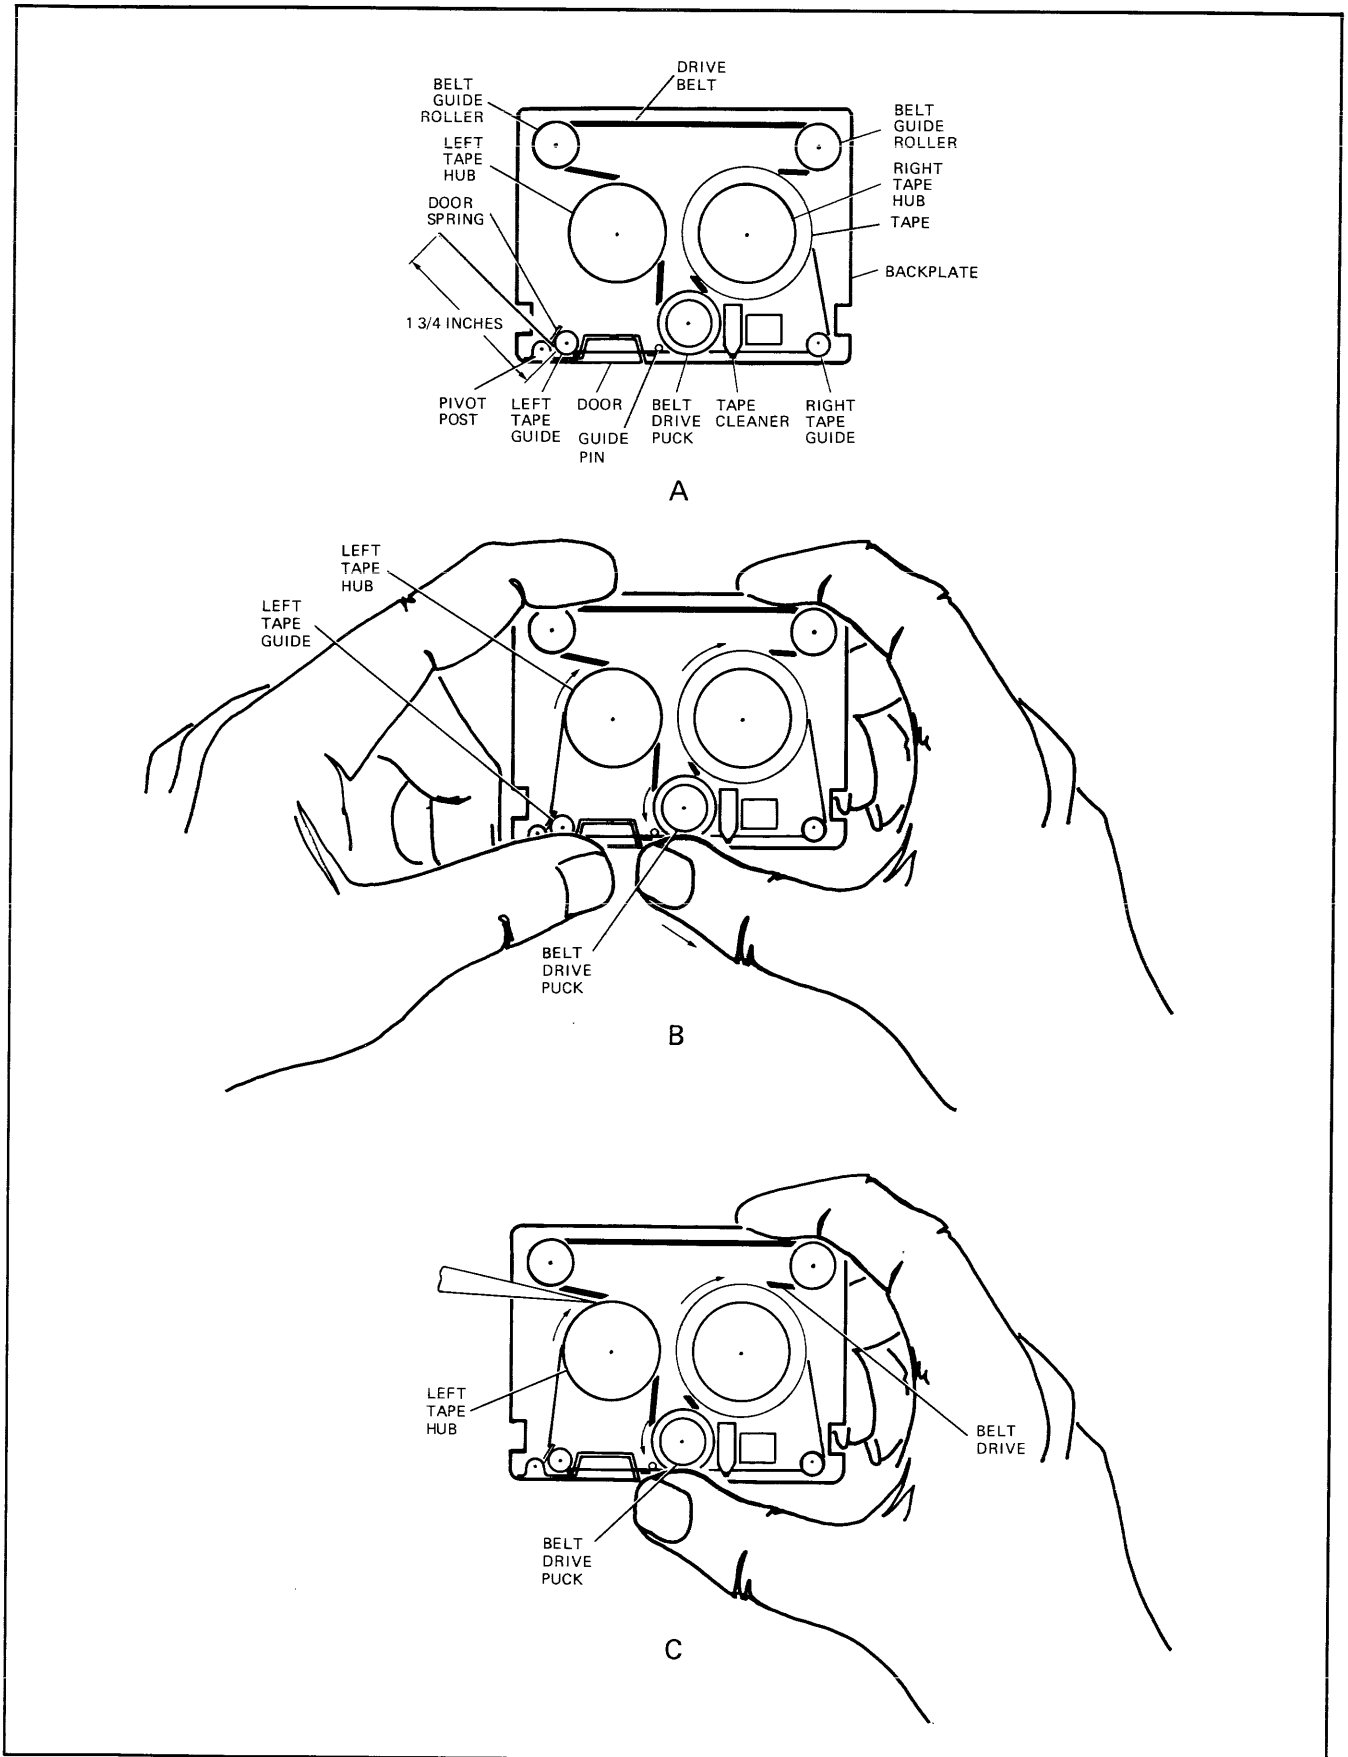

Figure 4-3. Tape Cartridge Rethreading
- b. As shown in figure 4-3, view A, rethread loose end of tape around right tape guide, through tape cleaner, past belt drive puck, outside guide pin, and around left tape guide so that approximately 1-3/4 inches of tape is clear of guide.
- c. Hold tape cartridge as shown in figure 4-3, view B, so that right hand can be used to rotate belt drive puck and left hand can be used to maintain tape tension at left tape guide.
- e. While maintaining tape tension, use any small round-tipped tool to trap free end of tape between drive belt and left tape hub as shown in figure 4-3, view C.